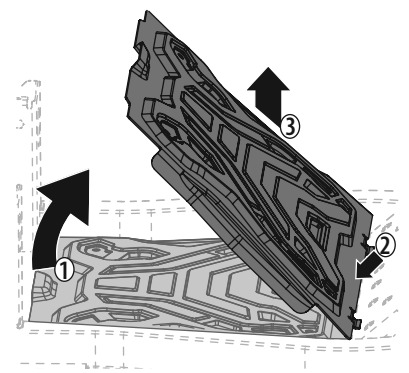

Figure 36
1. Carefully lift the rear of the floor panel. See 1 in Figure 36.
2. Slide the floor panel rearward to free the front of the floor panel. See 2 in Figure 36.
3. Lift it off the tractor. See 3 in Figure 36.